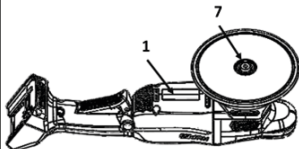

Fig.2
- Tighten the backing pad fixing screw (7) using the Allen wrench (10) (Fig. 2);